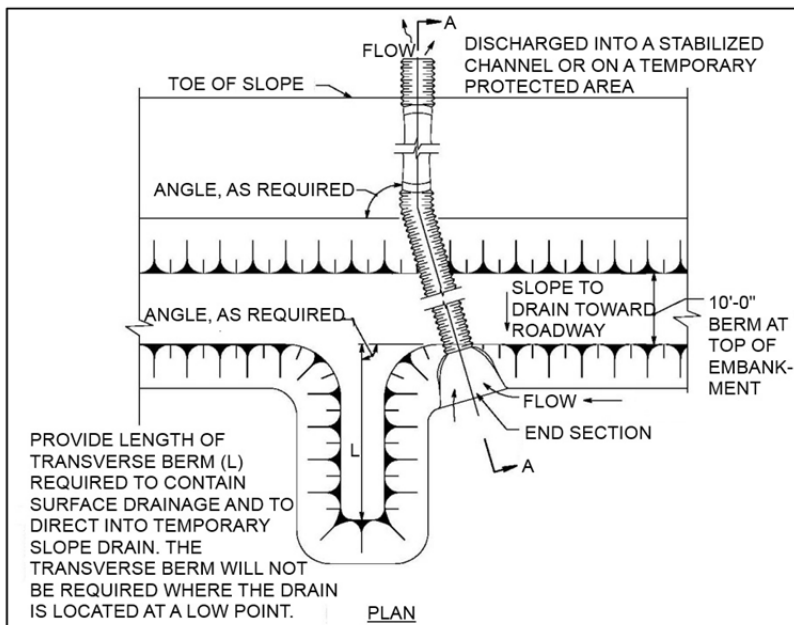

Figure 30: Temporary Slope Pipe
- Construct as shown in **Figures 30, 31, and 32.**